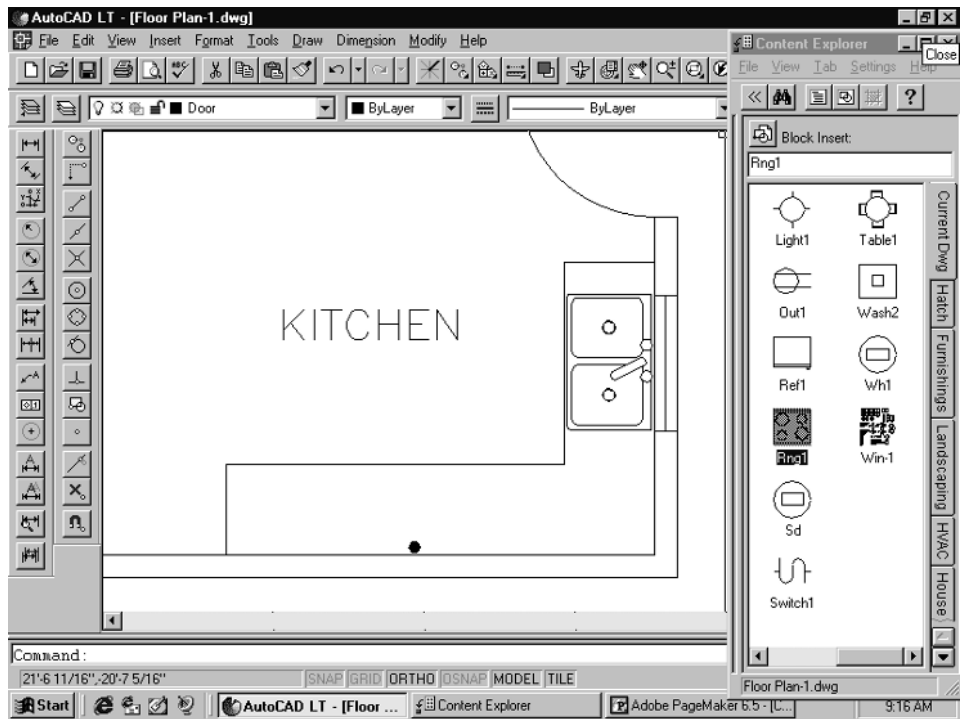

Figure 2-89
2. Next, place the range and refrigerator. Again, pick the Content Explorer button from the status bar. When it pops back up, look for the range symbol. If it is not visible, use the scroll bar at the bottom of the Content Explorer window to see more blocks. Double-pick on the range symbol. You will be prompted for the insertion point. Zoom in to the kitchen area, and pick a point as shown in Figure 2-89.